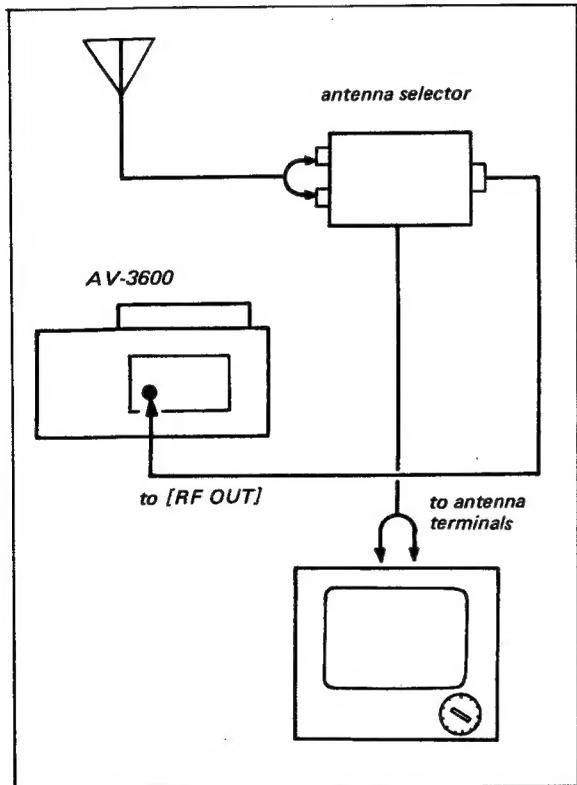

Fig. 1-1. RF Unit connections
- Insert the RF Unit (RFU-53W or 54W whichever channel is inactive in your area) into the compartment and connect the Videocorder, Antenna Selector and TV receiver as shown in Fig. 1-1.